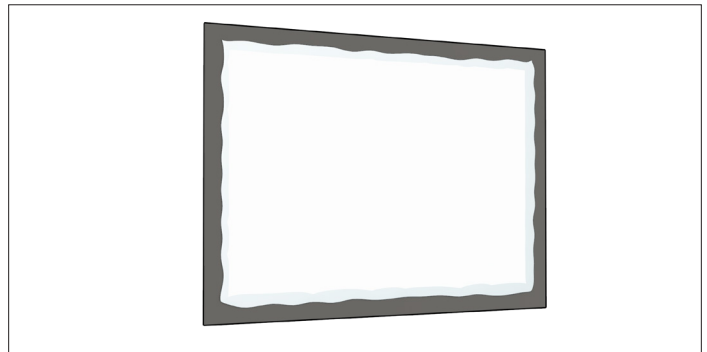

Figure 19.2
13. Peel back the panel protective film 1 1/2" around the perimeter of the panels to accommodate EZ Lock® Top Cap installation later in the process. This applies to all panels. (Figure 19.2)